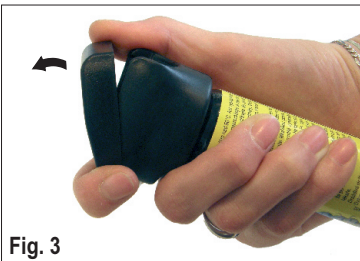

Fig. 3
4) Remove protective cap from the spare gas recharge - see Fig. 3 and then remove the release button of the spray nozzle – see Fig. 3a. Use this new release button